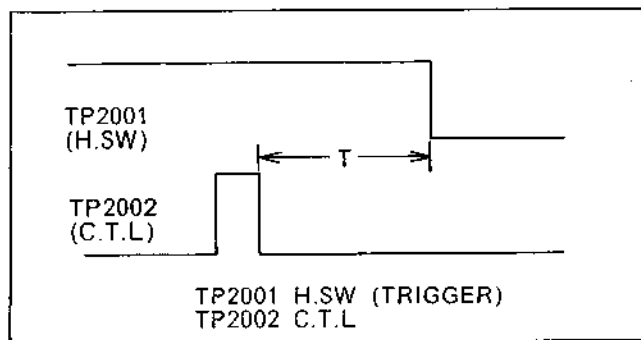

FIG. E4
2. Adjust VR2002 so that the period "T" becomes $1.6\pm0.4\text{msec}$ as shown in FIG. E4.